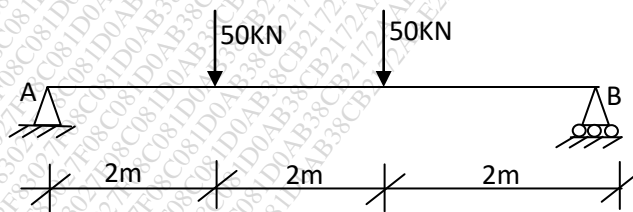

Figure 4
- Q.4 Analyse the beam as shown in fig.4 method using Macaulay's method and find maximum slope and deflection. $E = 200\text{GPa}$, $I = 80 \times 10^{-6}\text{m}^4$.